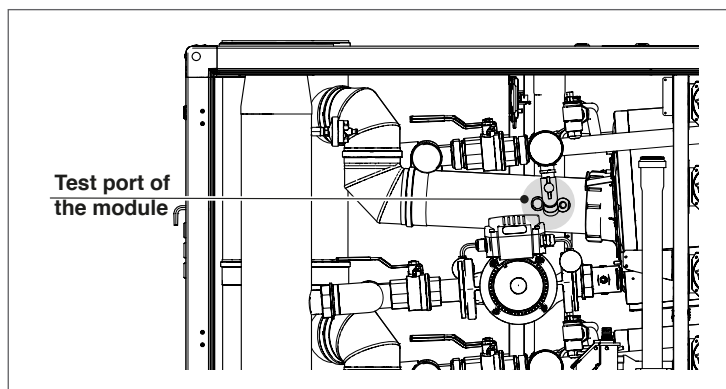

Fig. 15 Test Port for Combustion Analysis (available on each individual heat exchanger)
- Insert a combustion analyzer probe into the test port shown in Fig. 15